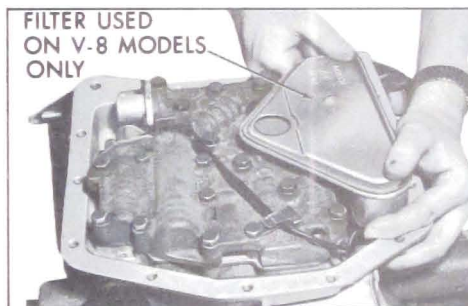

Figure 5-104
1. Remove the PF-162 filter on V-8 models. See Figure 5-104.